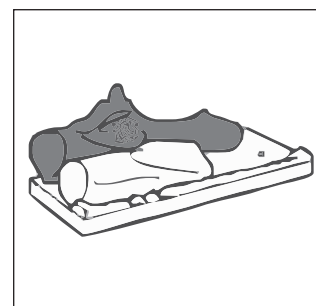

FIG 14
b) Place log #2 onto the 2 left back pins. Refer **FIG 14**.